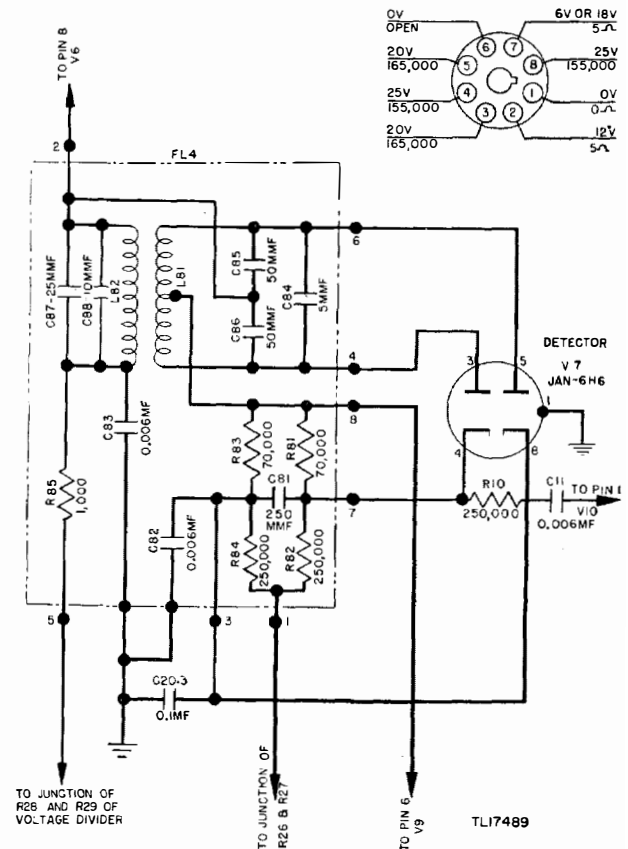

Figure 31. Radio Receiver BC-603-(*), detector (discriminator), V7—schematic diagram.
38. Parts List for Detector (Discriminator) Stage, V7 (fig. 31)